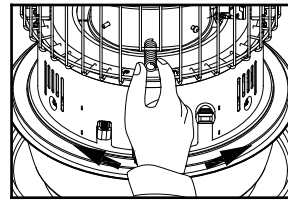

Fig. 11
After fueling the fuel tank of the heater by using siphon pump, make sure that you loosen (counter clock wise) the cap on the siphon pump to drain thoroughly the remaining kerosene in the siphon pump. For the reuse of siphon pump, make sure that you tighten (clock wise) the cap on the siphon pump to transfer the kerosene into the fuel tank properly. (Fig.11)
- Rotate the burner knob from side to side a few times to make sure that the burner is positioned properly on the wick adjuster. (Fig. 11)